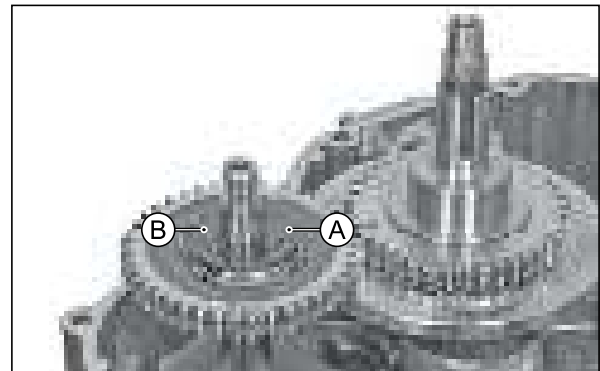

Fig. 3.192
- Assemble the retainer spring (A) and the shim (B) to the balancer shaft. (Fig. 3.192)